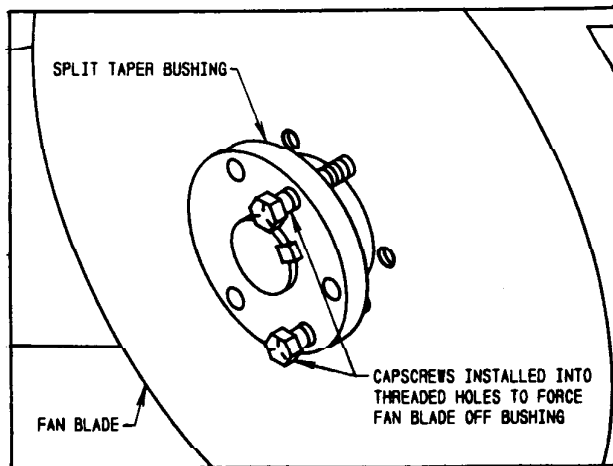

Figure 4
4. Block propellor to prevent it from turning, and gradually turn the capscrews (up to 1/4 turn at a time) until the propellor breaks loose from the bushing and motor shaft, see figure 4. Carefully remove bushing and propellor. With the propellor free from the bushing, a wheel can be used to pull the bushing off of the motor shaft. Reattach bushing onto propellor to prevent the loss of parts.